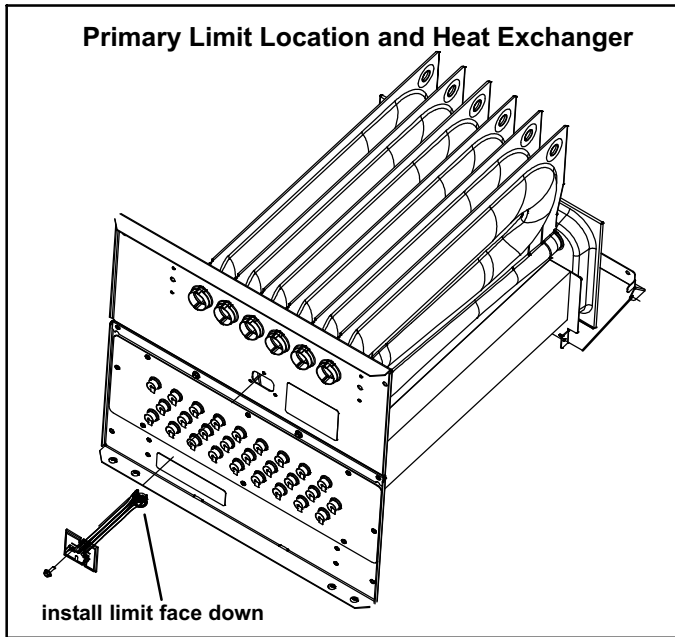

FIGURE 12
5. Duralock Plus™ Heat Exchanger (Figure 12)
Figure 12 shows the primary limit (S10) used on SLP98UHV units located in the heating vestibule panel. When excess heat is sensed in the heat exchanger, the limit will open. Once the limit opens, the furnace control energizes the supply air blower and de-energizes the gas valve. The limit automatically resets when unit temperature returns to normal. The switch is factory set and cannot be adjusted. In the event of restricted air flow, the integrated control will reduce firing rate and indoor blower airflow in 10% increments until a sustainable air flow is reached. If the furnace reaches 35% firing rate, and adequate air flow is not available, the furnace will shutdown and enter one hour watchdog. For limit replacement remove wires from limit terminals and rotate limit switch 90 degrees. Slowly remove from the vestibule panel.